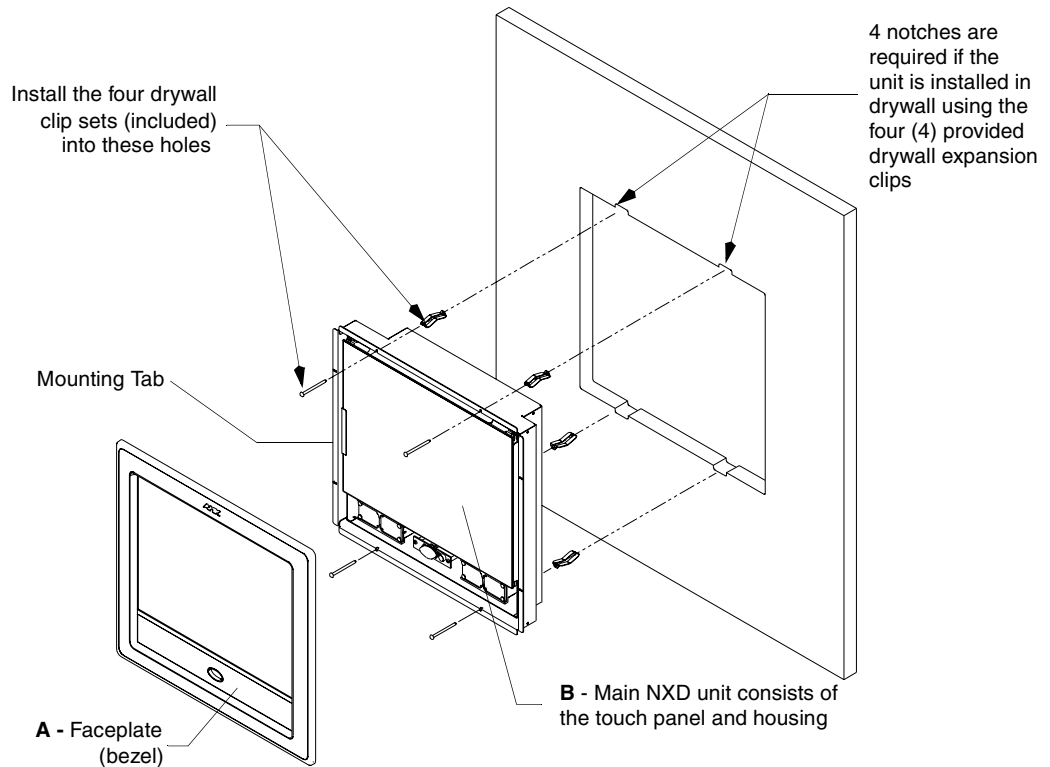

FIG. 42 Wall Mount panel (NXD) installation configuration for drywall surfaces
3. Remove the magnetic faceplate/bezel (**A** in FIG. 42) from the main NXD unit (**B** in FIG. 42) by gripping the faceplate and pulling with gentle outward force.
11. Place the magnetic faceplate (A in FIG. 42) back onto the main NXD unit (B in FIG. 42). *Make sure to align the Microphone, Light, and PIR Motion sensor locations to their respective openings on the front bezel/faceplate.*